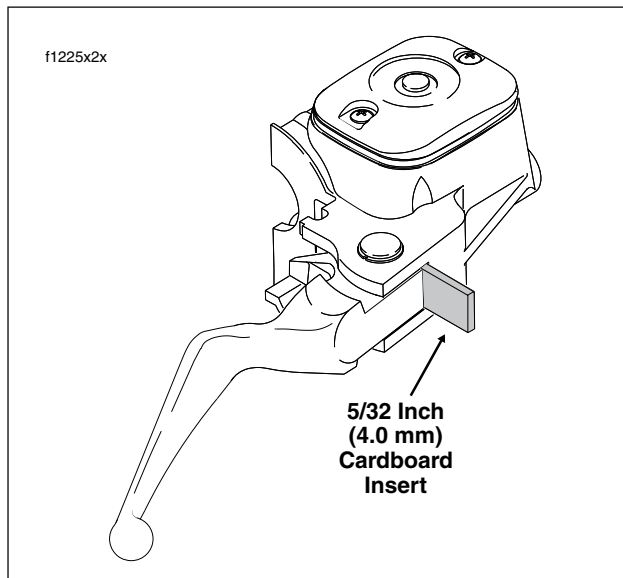

Figure 1-18. Install Cardboard Insert
1. Place the cardboard insert between the brake lever and lever bracket. See Figure 1-18.